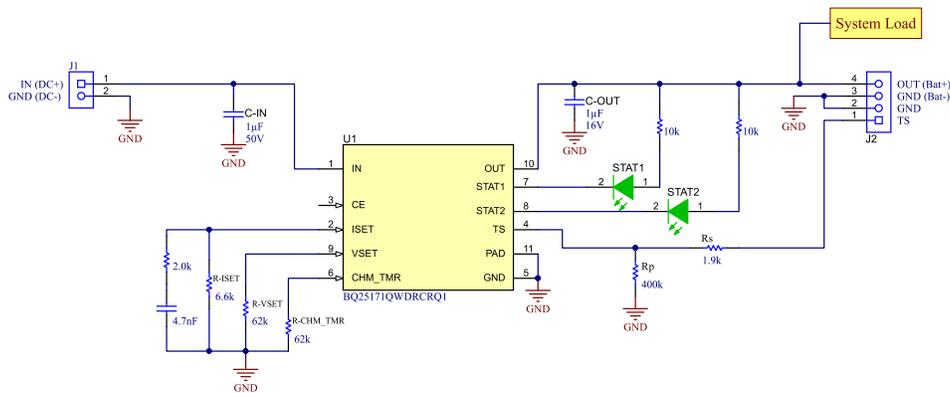

Figure 5-1. LiFePO4 45-mA Fast Charge Design
| Figure 5-1. LiFePO4 45-mA Fast Charge Design.....    | 4 |
Figure 5-1 provides a solution that will charge at 45 mA and demonstrates the required resistors to modify the allowable battery temperature range.
- ICHG can be set as low as 10 mA via ISET, for ICHG below 50mA TI recommends adding a RC circuit in parallel with R-ISET for greater signal stability. R = 2 kΩ and C = 4.7 nF recommended. Refer to Figure 5-1 above for implementation of RC circuit.